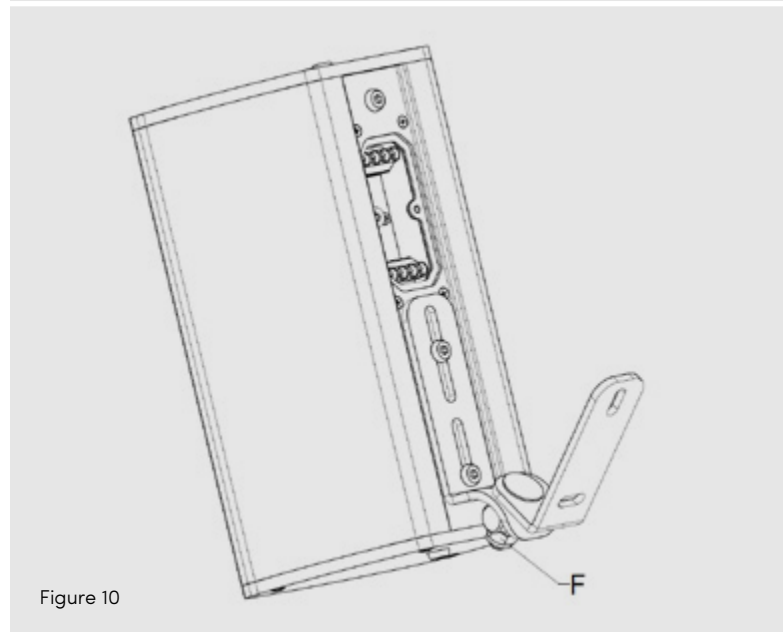

Figure 10
4. Tighten the M8 nut (F) just as far as it is still possible to turn and angle the loudspeaker. Set the required rotation and inclination angles. SEE FIGURE 10.
5. Once you are happy with the above angles, tighten the M8 nut (F) using a torque of 18 Nm.